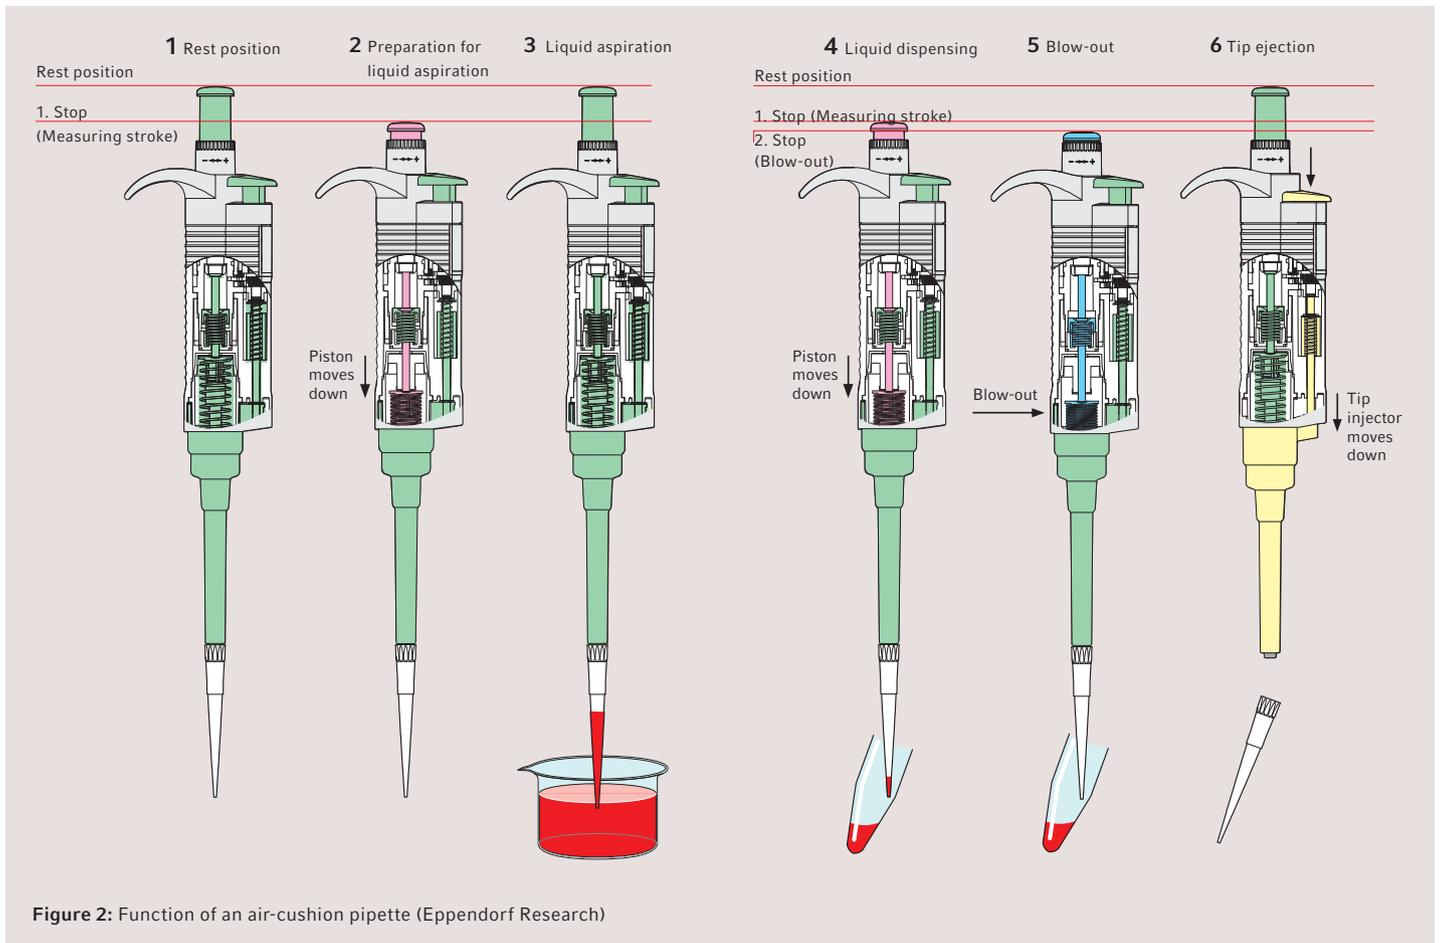

Figure 2: Function of an air-cushion pipette (Eppendorf Research)
Figure 2 shows the design principle of the air-cushion pipette based on the rest position (1). To prepare for aspiration of the liquid (2) the push-button is pressed to the first stop (measuring stroke). The piston moves down, displacing a volume of air that corresponds to the selected aspirating volume of the liquid. To aspirate liquid (3) the pipette tip is immersed into the liquid vertically. As the pushbutton slowly moves back, a partial vacuum is created in the pipette tip, aspirating the required volume through the tip opening. To dispense liquid (4), the push-button is slowly pressed to the first stop (measuring stroke).
Figure 2: Coupling of a positive-displacement pipette with a matching pipette tip: the tip has an integrated piston (2) which is securely connected during pipetting with the piston rod of the pipette (1). The liquid in the tip only reaches up to the hermetic sealing lip (3), thus the formation of aerosols is excluded.